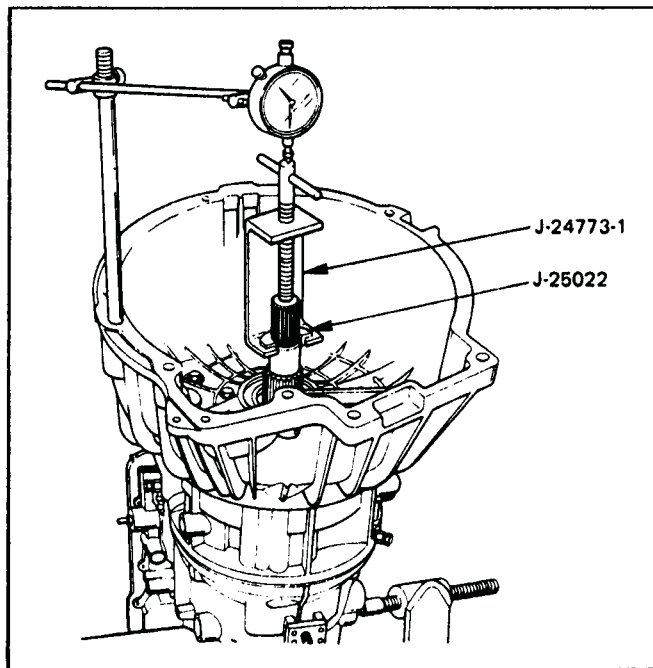

Figure 113
42. Install puller J-24773-1 and adapter J-25022 on turbine shaft, as shown in Figure 113, and tighten "T" handle screw.
43. Position dial indicator on the end of puller, as shown in Figure 113, and set dial indicator to zero.